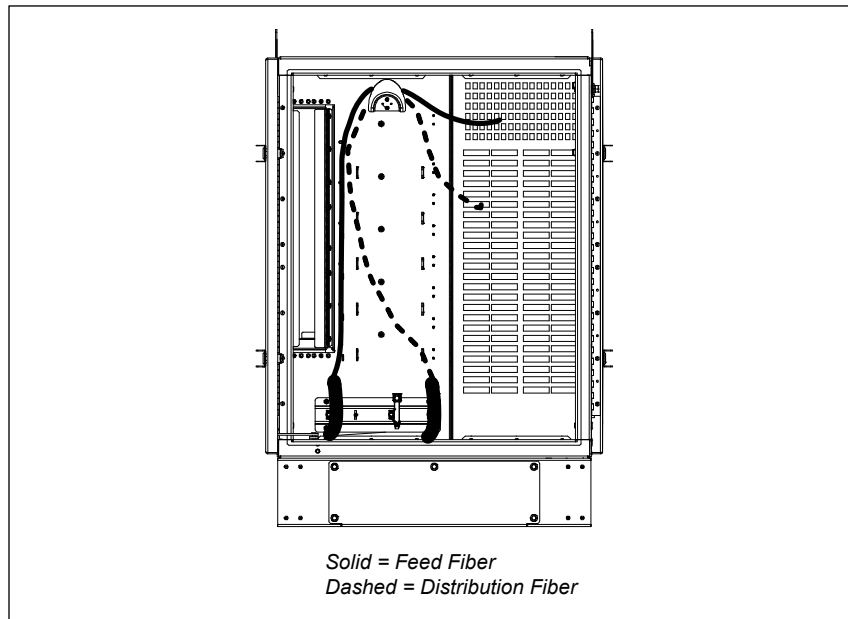

Figure 10 Feed and Distribution Routing, Single Fiber Shown
5. Route feed and distribution buffer tubes around the inside of the OHC, using the tie-down points to secure the buffer tube in place. Route the buffer tubes around the fiber management bracket and around to the feed and distribution adapter fields. Observe the proper bending radius for all buffer tubes. (Figure 10).
6. Feed Fibers: connect fiber fanouts to the input ports for the splitters. Observe the proper bending radius for all fanouts. Route the fiber fanouts, using the fiber management panels to the left of the splitter inputs (Figure 10).
7. Distribution Fibers: connect fiber fanouts to the output ports from the splitters. Observe the proper bending radius for all fanouts. Route the fiber fanouts, using the fiber management panels to the left of the distribution ports (Figure 10).